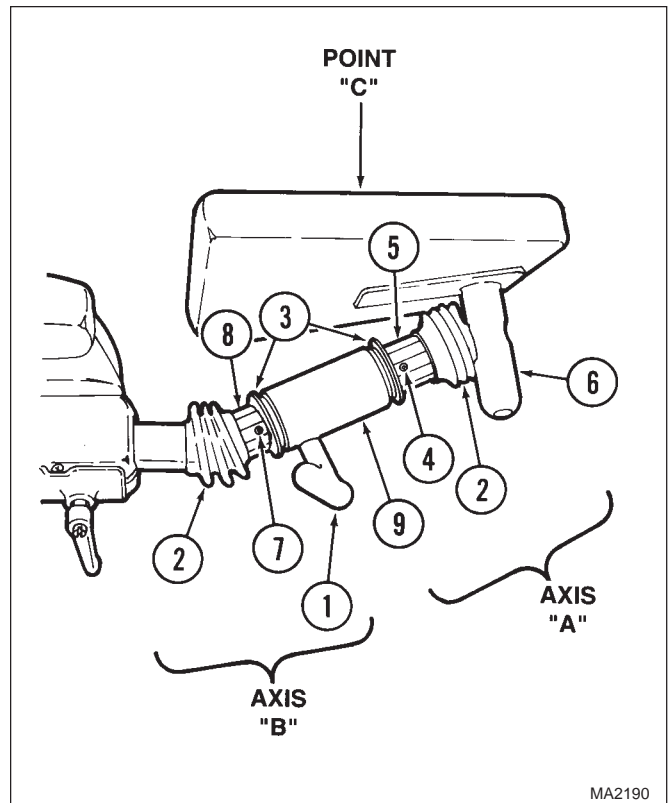

Figure 4-68. Articulating Headrest Assembly Adjustment
- (3) Turn T-handle (1, Figure 4-68) until the articulating headrest assembly is "unlocked".
- (4) Pull inside end of each headlock bellows (2) off of thrust washer (3). Fold the headlock bellows (2) back out of the way.
- (5) Loosen setscrew (4).
- (6) Coat threads of setscrew (4) with removable threadlocking adhesive (Loctite 242).
- (7) Tighten ball nut (5) until headrest handle weldment (6) begins to show resistance at Axis A, when it is rotated.